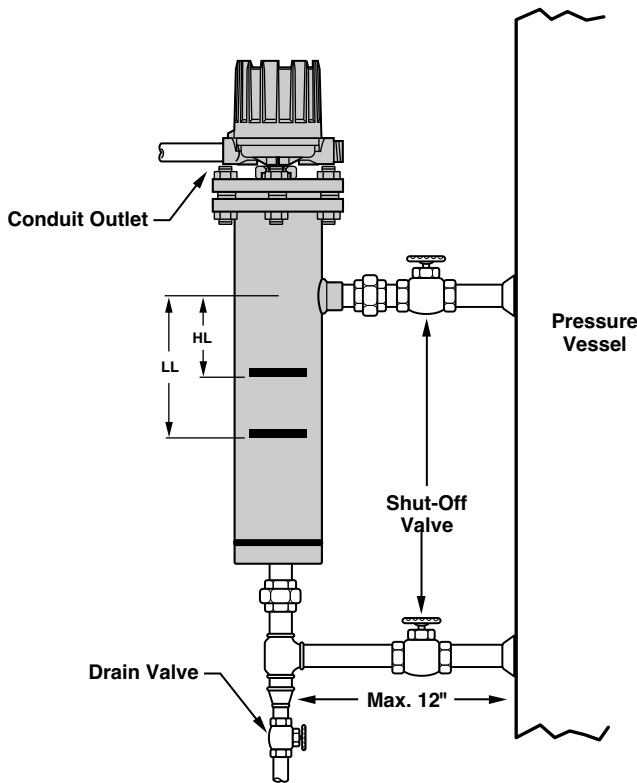

Figure 3
Figure 3 shows a typical piping installation of a C74 control to a pressure vessel. An instruction tag secured to the control gives dimensional data on switch actuating levels referenced from center line of upper side tank connection. Position control so that actuating levels correspond with the desired liquid level trip points in process vessel.
6. If switch magnet assembly swings freely and mechanism still fails to actuate, check installation of control to be certain it is within the specified three (3°) degrees of vertical. (Use spirit level on side of enclosing tube in two places, 90° apart. Refer to Figure 3.